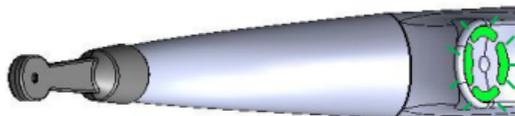

Fig. 8
6.5.1. When DemDetect™ Implant Detector is ready, 4 segments blink green (Fig. 8).